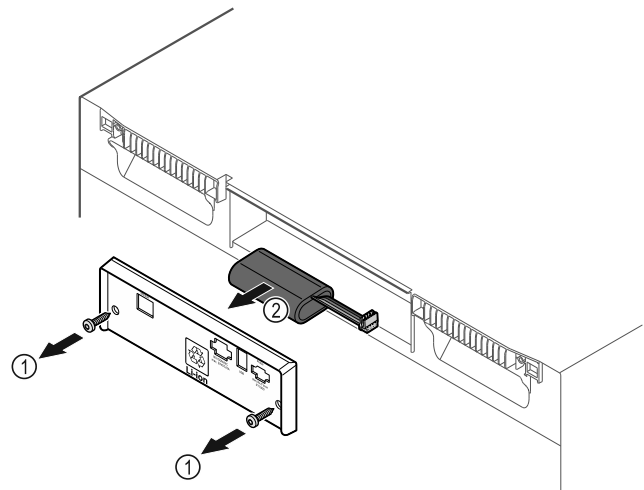

Fig. 237
- ▶ Unscrew screws and remove cover from the back of the appliance Fig. 237 (1).
- ▶ Disconnect and remove battery Fig. 237 (2).